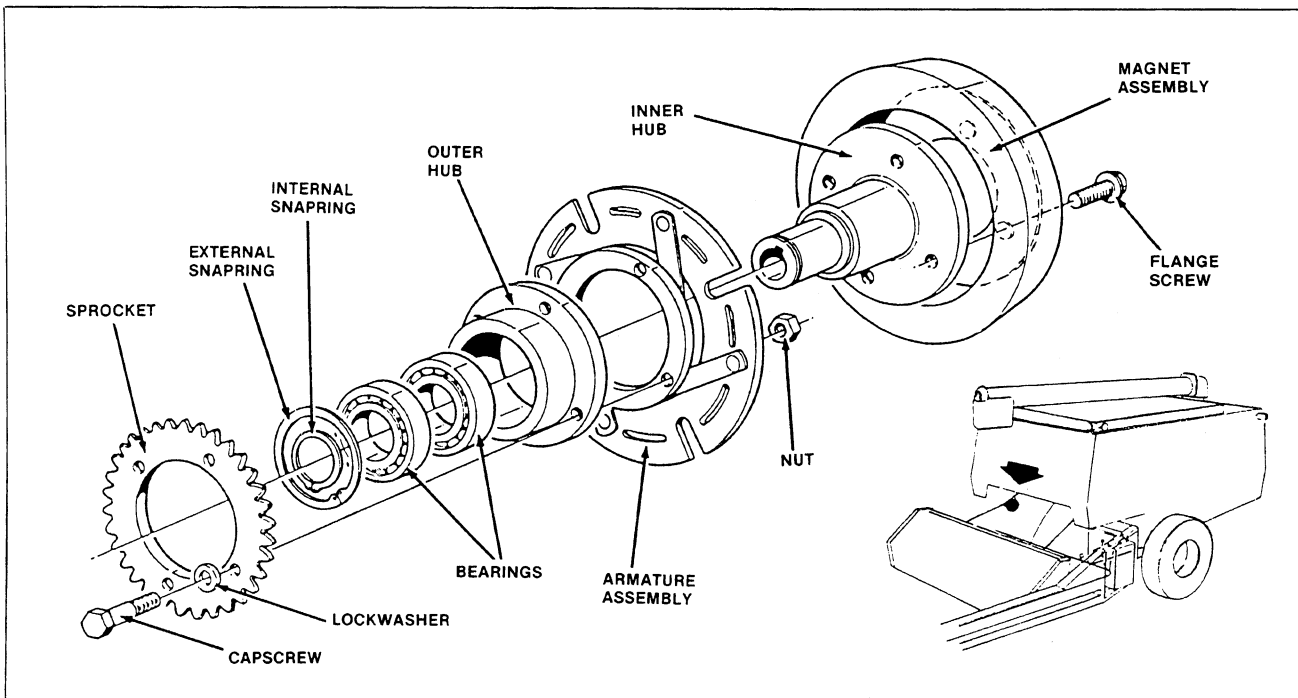

FIGURE 2-4: Table Clutch
3. Remove four flange screws securing magnet assembly to clutch (Figure 2-4). Remove magnet assembly.
2. Install bearings to outer hub and secure with internal and external snaprings (Figure 2-4).